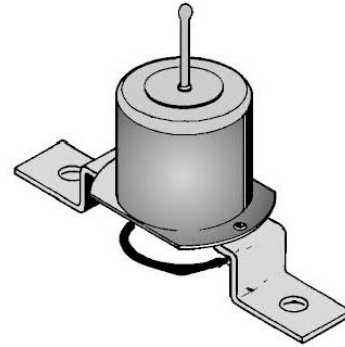

Figure 7: Drain pan valve
6.6 VALVE, DRAIN PAN (see Figure 7)